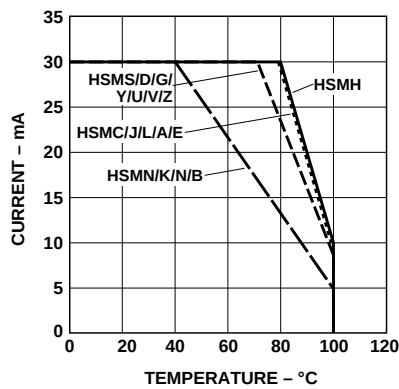

Figure 4. Maximum forward current vs. ambient temperature. Derated based on $T_{JMAX} = 110^{\circ}\text{C}$, $R_{\theta JA} = 500^{\circ}\text{W}$.
1. Derate linearly as shown in Figure 4.